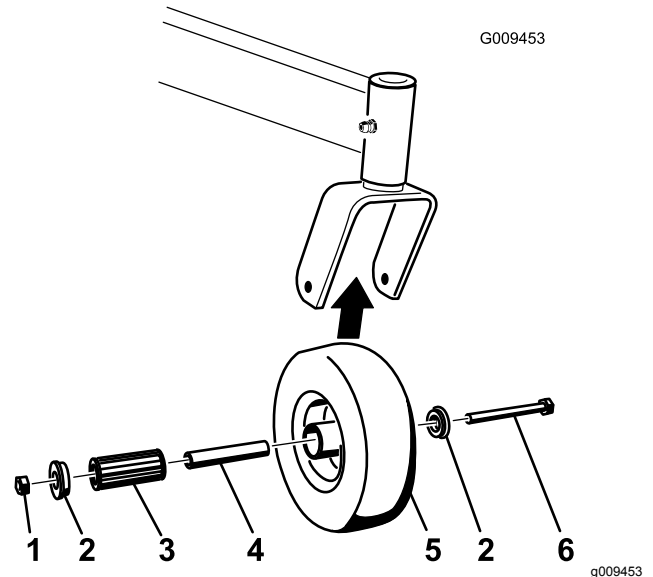

Figure 68
1. Remove the locknut and wheel bolt holding the caster wheel to the caster fork (Figure 68).
2. Remove 1 bushing, then pull the spanner bushing and roller bearing out of the wheel hub (Figure 68).
3. Remove the other bushing from the wheel hub and clean any grease and dirt from the wheel hub (Figure 68).
Note: Replace any damaged or worn parts (Figure 68).
5. Place 1 bushing into the wheel hub (Figure 68).
6. Grease the roller bearing and spanner bushing, and slide them into the wheel hub (Figure 68).
7. Place the second bushing into the wheel hub (Figure 68).
8. Install the caster wheel into the caster fork and secure it with the wheel bolt and locknut (Figure 68).
9. Tighten the locknut until the spanner bushing bottoms against the inside of the caster forks (Figure 68).